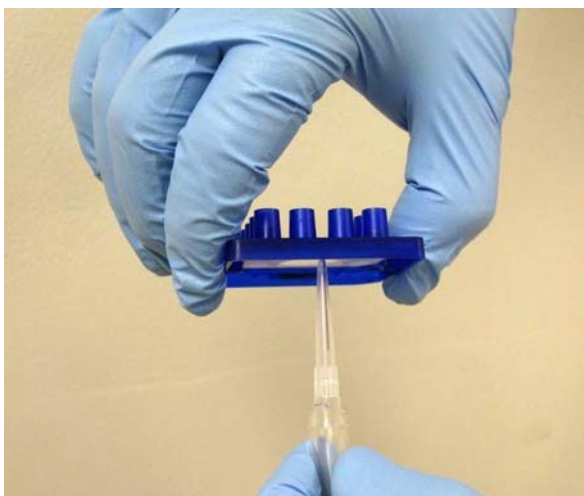

Figure 20. Removing an air bubble or clog by suctioning the sipper with a vacuum line.
- If air bubbles are not dislodged after a reprime, apply a vacuum to the sipper. Perform this by filling all active wells with 100 μ L of Chip Storage Buffer. Then suction the sipper with a vacuum line as shown in Figure 20 until droplets of fluid flow out from the sipper. When suctioning the sipper, be careful not to bend or break the sipper. To facilitate this, cut the end of the pipette tip attached to the vacuum line to widen the mouth.